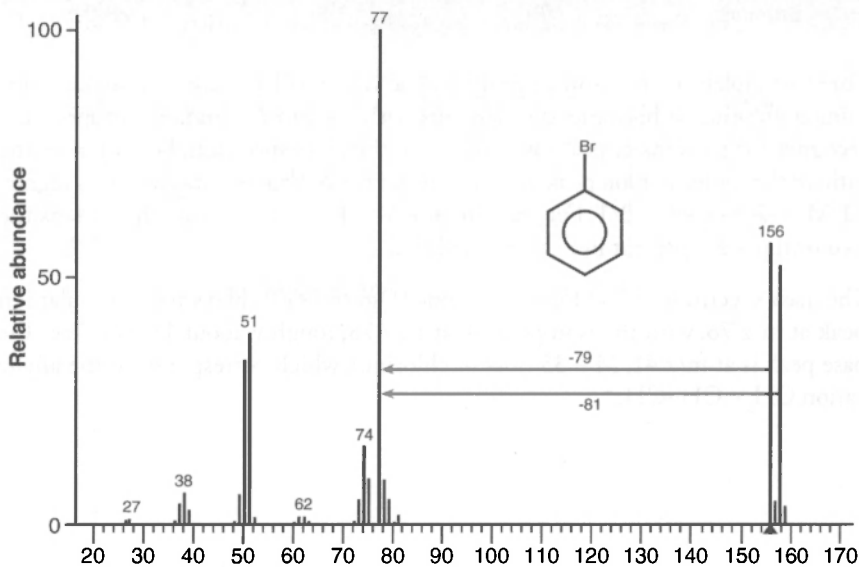

Figure 2-51. Mass spectrum of bromobenzene.
The mass spectrum of bromobenzene in Figure 2-51 clearly shows the two peaks with almost equal abundance at m/z 156 (M) and m/z 158 ($M+2$), as predicted by the natural abundance of the two isotopes of bromine, ^{79}Br and ^{81}Br . The base peak at m/z 77 corresponds to the phenyl cation.